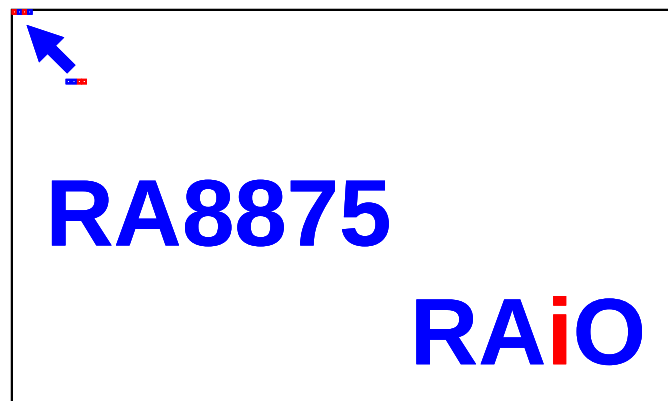

Figure 7-11 : The Display with Graphic Cursor
5. Writing to GCHP0(REG[80h]), GCHP1(REG[81h]), GCVPO(REG[82h]) and GCVPI(REG[83h]) to change graphic cursor position. The Figure 7-11 shows the display with graphic cursor.